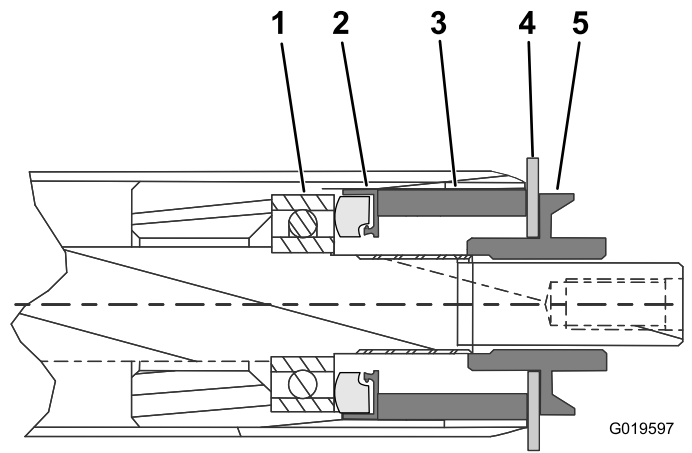

Figure 5
14. Install the 22.2 mm (7/8 inch) spacer and yellow washer onto one end of the roller (Figure 5).
15. Tighten the nut until the yellow washer bottoms out against the roller housing (Figure 5).